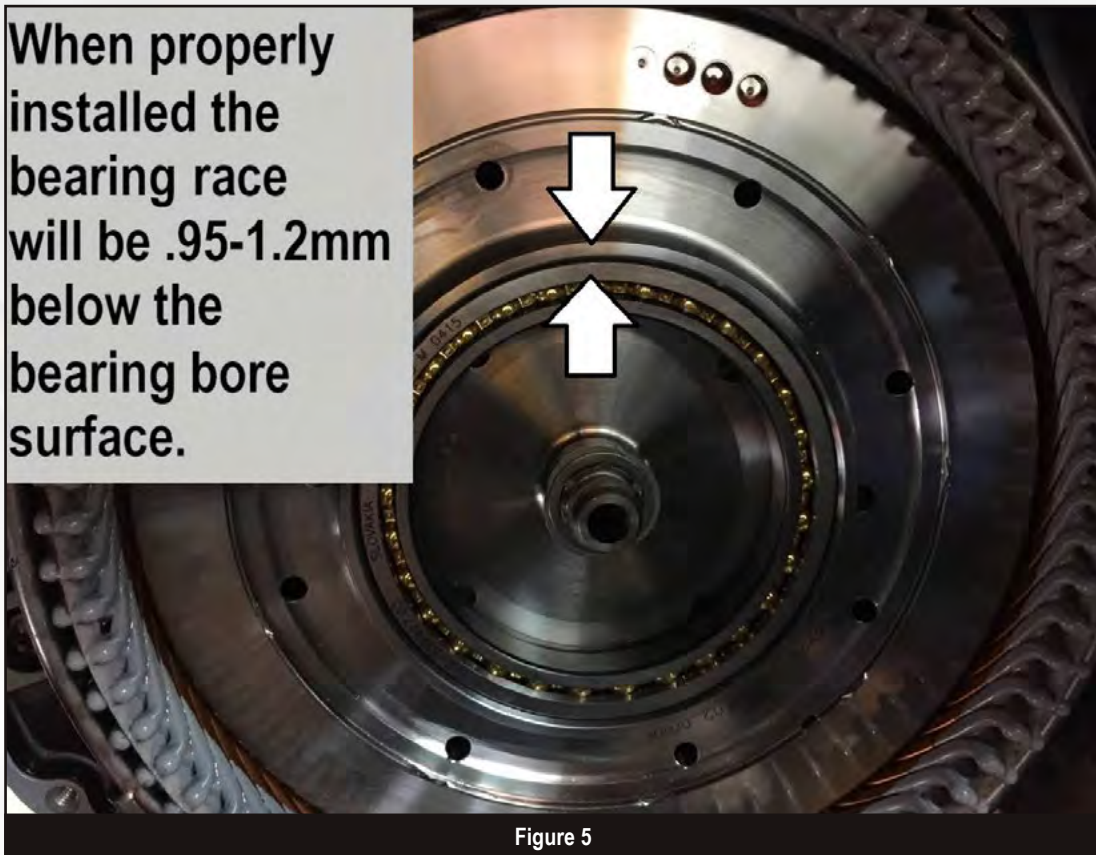

Figure 5
- Install a new bearing onto the rotor using the appropriate tools. Make sure to place the side of the bearing with the part number facing your bearing driver tool. Drive the bearing into its bore until the bearing outer race is 0.95–1.2mm (0.037"–0.047") below the bearing bore. (Figure 5)